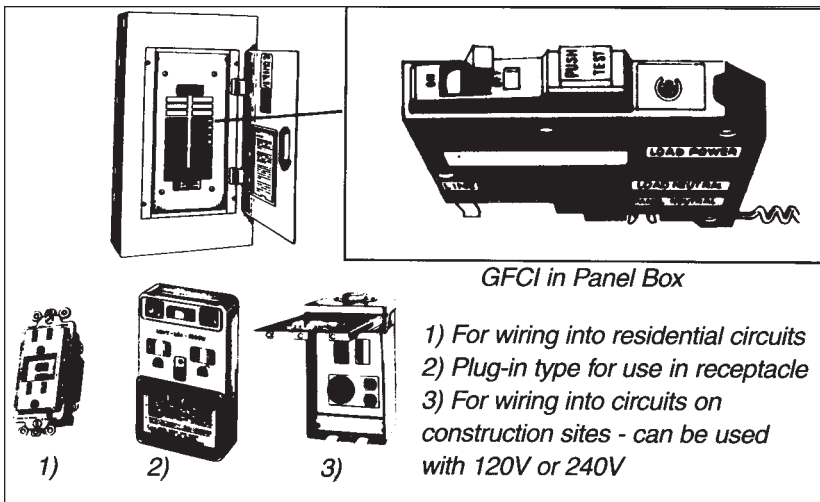

Figure 21.34
**Grounding** of electric power tools and the use of **ground fault circuit interrupters (GFCIs)** will protect the worker under most circumstances. GFCIs are required by law (Construction Regulation, section 195) wherever portable power tools are used outdoors or in wet conditions (Figure 21.34). GFCIs detect current leaking to ground from an electric tool or cord and shut off power before injury or damage can occur.